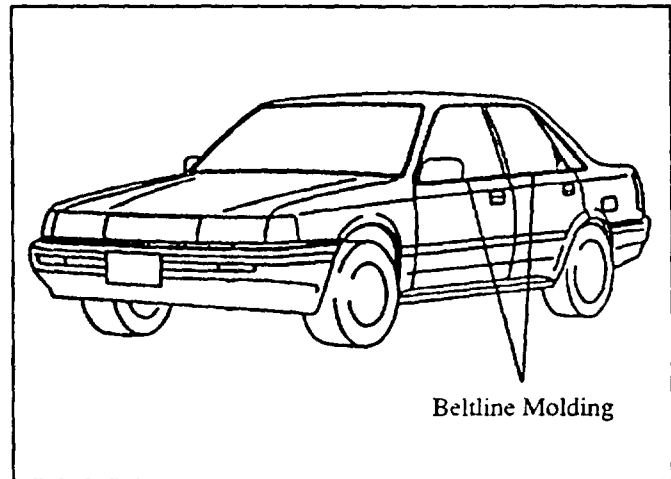

Figure 10: Area of Beltline Molding
1. While an assistant directs water along the beltline molding, inspect for water entering from over the plastic sill plate. **Figure 10.**
5. With the door closed, watch for water leaks during the hose test. Have an assistant slowly direct the water stream up from the bottom portion of the door-to-fender seam then up the "A" pillar to the top of the door and around the windshield. Next, have the assistant slowly direct water along the window beltline molding (if the vehicle is a four door, perform this test on both the front and rear doors.) **Figures 10 and 11.**